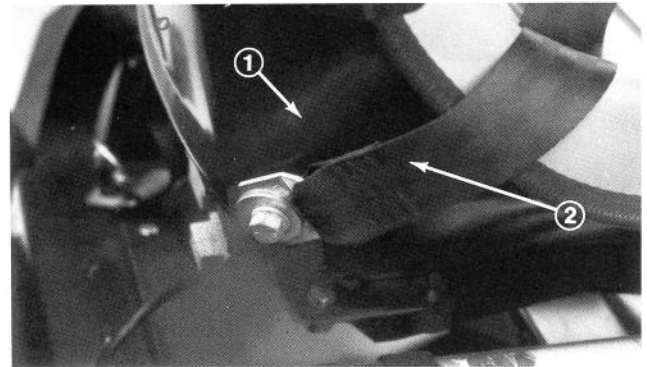

Figure 17
1. Install seat belt to holes in back of seat with (2) 7/16 x 20 - 1" lg. capscrews and 7/16 lockwashers (Fig. 17). Tighten securely. Latch side of belt to be mounted to left side of seat.